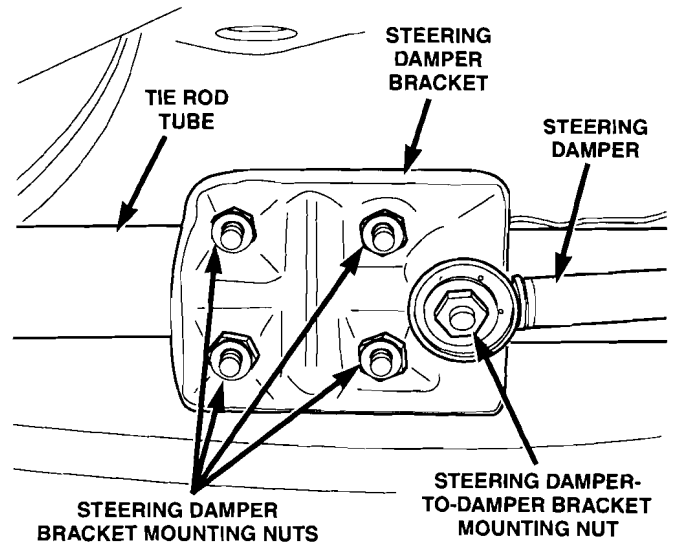

Figure 2
- a. Remove and save the steering damper-to-damper bracket mounting nut (Figure 2).
- c. Remove and discard the four steering bracket nuts, two u-bolts and the bracket (Figure 2).